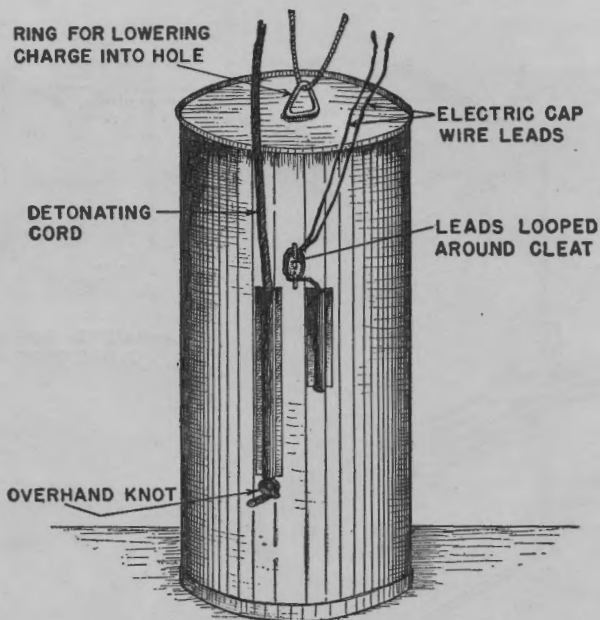

FIGURE 94.—Ammonium nitrate cratering charge with electric-cap and detonating-cord primers.
d. Ammonium nitrate cratering explosive (fig. 94).—Ammonium nitrate cratering explosive is issued in 40-pound charges, each packed in a cylindrical container of tin or other moistureproof material of equal strength. The metal container is about $8\frac{1}{4}$ inches in diameter and 17 inches in height; another type of container, made of waterproofed cardboard, is 7 inches in diameter and about 21 inches high. Two tubes are secured to the outside wall of each container,
cap (fig. 94). To make a primer using detonating cord, pass the detonating cord all the way through the tunnel (from top to bottom) on the side of the container and tie an over-hand knot in the lower end to prevent the cord from pulling out of the tunnel. Both means of detonating should be used simultaneously. Do not use detonating cord or electric-cap leads to lower the ammonium nitrate cratering charges into holes; use a cord attached to the ring in the top of the charge.